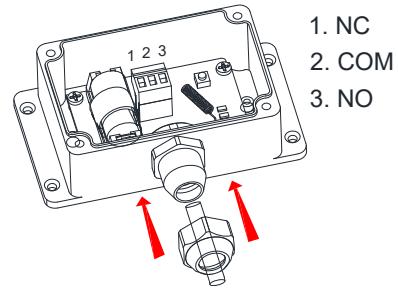

Fig. 3: wiring and terminals
3. Feed the wiring through the cable gland and connect wiring to the relay output terminals (see Fig. 3).